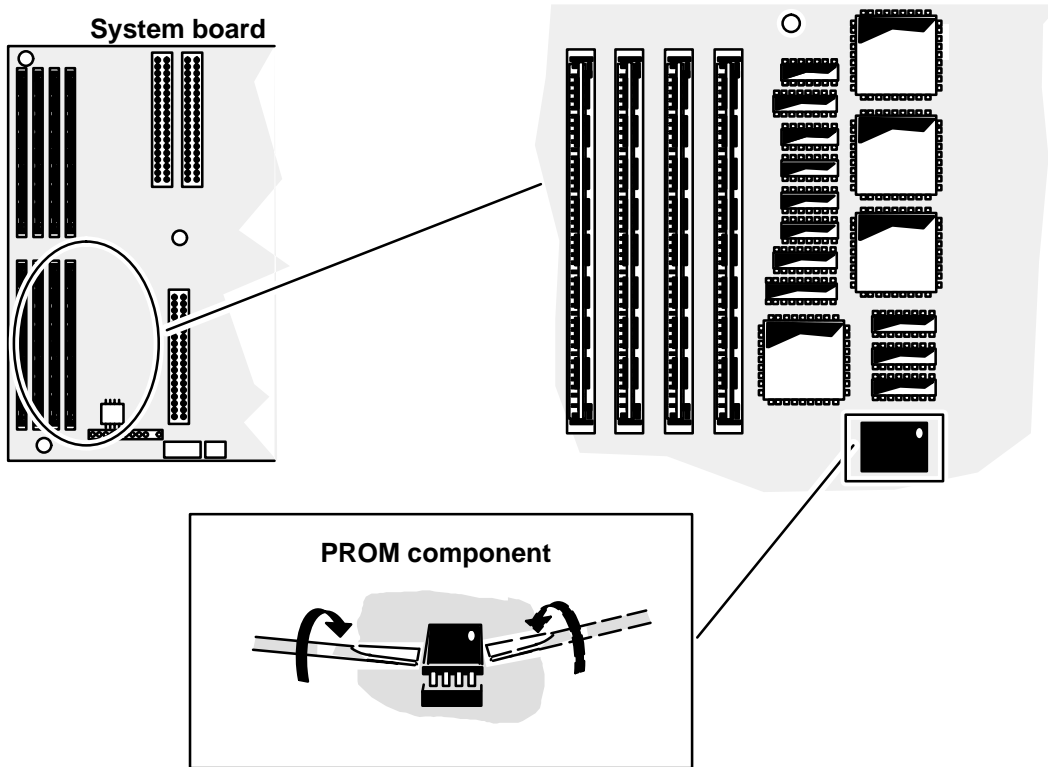

Figure 10-7 Removing the PROM Component
11. Using a flat-blade screwdriver, *gently* pry up one end and then the other end of the PROM component as shown in Figure 10-7 until it is loose enough to remove by hand.
NOTE: If the *replacement* system board has a PROM installed as shown in Figure 10-7, you need to remove the PROM component from the replacement system board following Steps 11 and 12 in the previous section “Removing the System Board.”